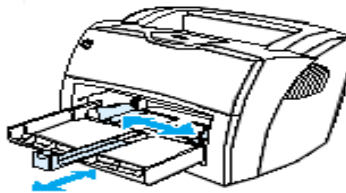

Figure 8. Slide Media Guides Out
9. Slide the media guides out and back to accommodate the media as shown in Figure 8.